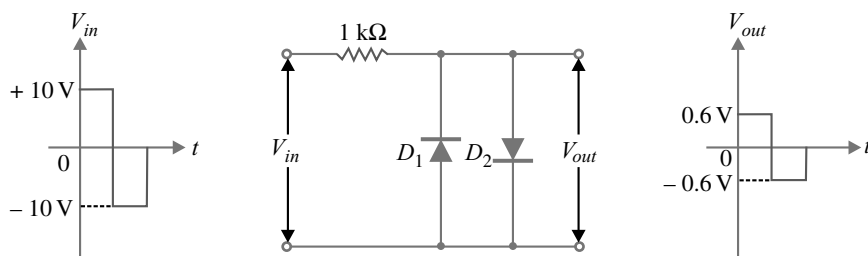

Fig. 16.48
**Example 16.20.** For the input wave to the symmetrical clipper shown in Fig. 16.48, find the output voltage waveform. Assume that the barrier voltage of each diode is 0.6 V.
**Solution.** Fig. 16.48 shows the symmetrical clipper.